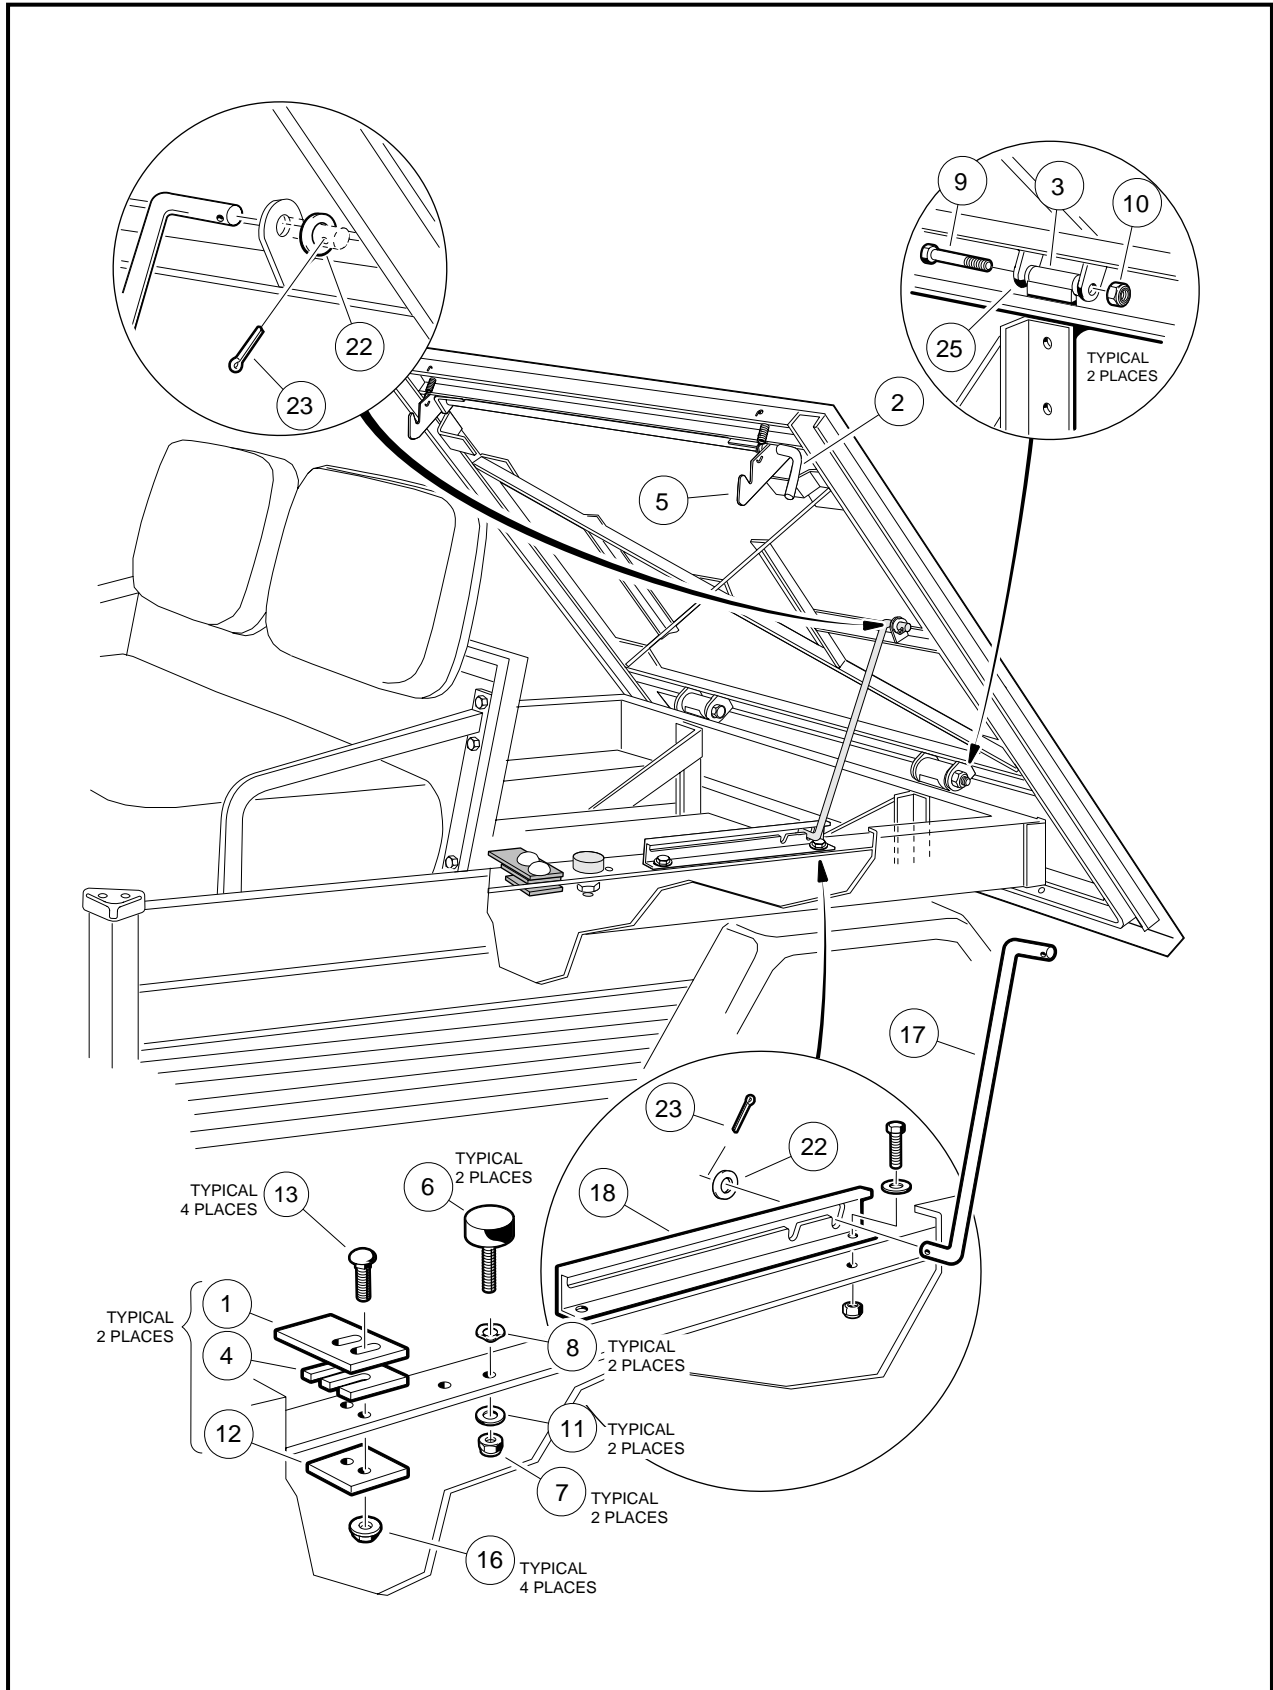

Figure 4-3 Tilt Bed
- Raise bed and ensure that the prop rod (17) is secured in the prop rod track (18). Hold bed securely in an upright position. Remove cotter pin (23) and flat washer (22) from top end of prop rod where prop rod attaches to bed. Remove prop rod (17) from bed and place prop rod between prop rod track (18) and rear body panel. Lower bed onto vehicle frame (Figure 4-3, Page 4-7).
2. Remove two locknuts (10) from left and right tilt bed hinge assemblies (3) **(Figure 4-3, Page 4-7)**.
3. Apply slight upward pressure (by hand) on the rear of the bed to relieve pressure on the hinges and remove the hinge bolts (9) from the hinge assemblies.
4. Raise rear edge of bed approximately 6 inches (15.2 cm) and pull bed assembly toward rear of vehicle approximately 3 inches (7.6 cm) to release bed latch assembly (2) from latch plate (1) **(Figure 4-3, Page 4-7)**.
1. Hold bed at a slight angle (front of bed lower than rear of bed) to vehicle and place front edge of bed onto vehicle frame. Bed latches (5) should be engaged with latch plates (1) **(Figure 4-3, Page 4-7)**.
2. Lower edge of bed onto vehicle and align hinge brackets (3) with bed hinge (25) **(Figure 4-3, Page 4-7)**.
3. Start the bolts (9) into left and right hinge assemblies (3 and 25). It may be necessary to use an alignment tool to align holes in hinge bracket with steel bushing in hinge assembly **(Figure 4-3, Page 4-7)**.
5. Install a nylon locknut (10) on each bolt (9) and tighten to 15 ft-lb (21 N·m) **(Figure 4-3, Page 4-7)**.
6. Lift bed and place the prop rod (17) in bed mounting hole. Install a 3/8 inch flat washer (22) and a **new** cotter pin (23) on prop rod **(Figure 4-3, Page 4-7)**.